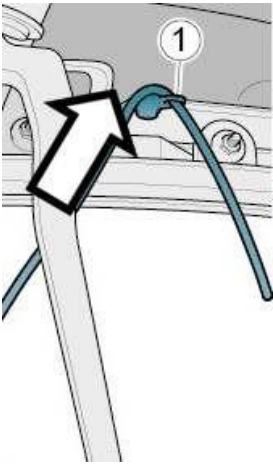

Figure 4
- Referring to Figure 4 - Remove the cord through the redirector -1-